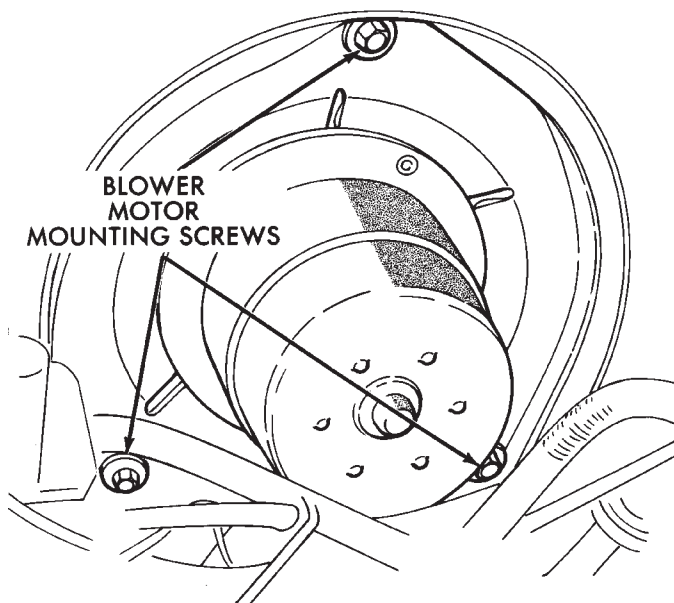

Fig. 10 Blower Motor Mounting Screws
- (2) Remove the blower motor mounting bolts (Fig. 10).
- (3) Remove the blower motor and fan assembly.
- (3) Remove the blower motor mounting bolts (Fig. 10).
- (4) Remove the blower motor and fan assembly.